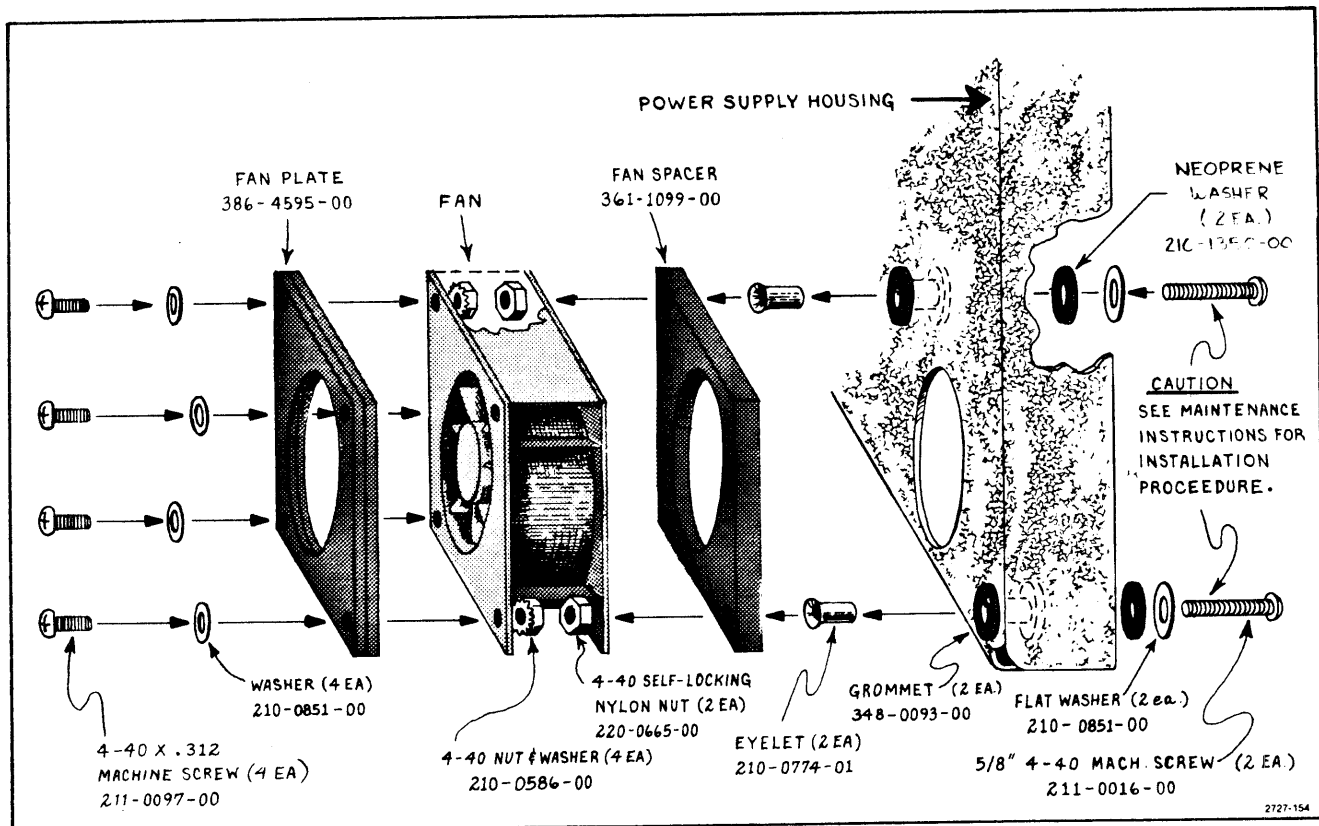

Fig. 4-9. Exploded drawing of fan assembly.
Instruments SN B010322 and up may have a compliant mounted fan (see Fig. 4-9). It is important that the mounting screws for these fans are not over-tightened.
1. Refer to Fig. 4-9 and replace as follows:
- b. Insert the two 5/8 inch machine screws, with washers mounted as shown in Fig. 4-9, through the two eyelets. Place the fan in position then while holding the nylon nut with needle-nose pliers, screw the mounting screws into the nut until the end of the screw is just flush with the nut. The nylon nuts are self locking.